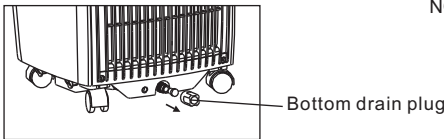

Fig. 23
- When the water level of the bottom tray reaches a predetermined level, the unit beeps 8 times, the digital display area shows "P1". At this time the air conditioning/dehumidification process will immediately stop. However, the fan motor will continue to operate(this is normal). Carefully move the unit to a drain location, remove the bottom drain plug and let the water drain away (Fig.23). Re-install the bottom drain plug and Restart the machine until the "P1" symbol disappears. If the error repeats, call for service.